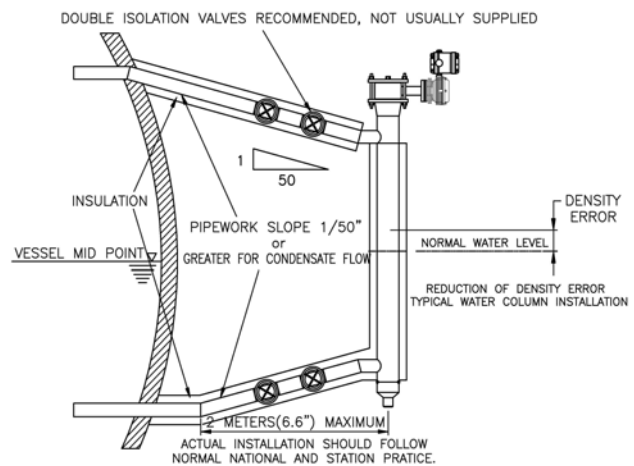

FIG. 8
- As shown in the picture above (Fig. 8), expose the upper branch of the steam pipe to the air in part so that the Latent Heat of Condensation generated by the liquefaction of the steam can be transmitted to the water preserved in the water vessel, and this latent heat of condensation makes the water temperature go up and can minimize the temperature difference, which eventually makes the measurement error minimize. The pipes and lagging materials should be installed to have slopes like the right Fig. 8